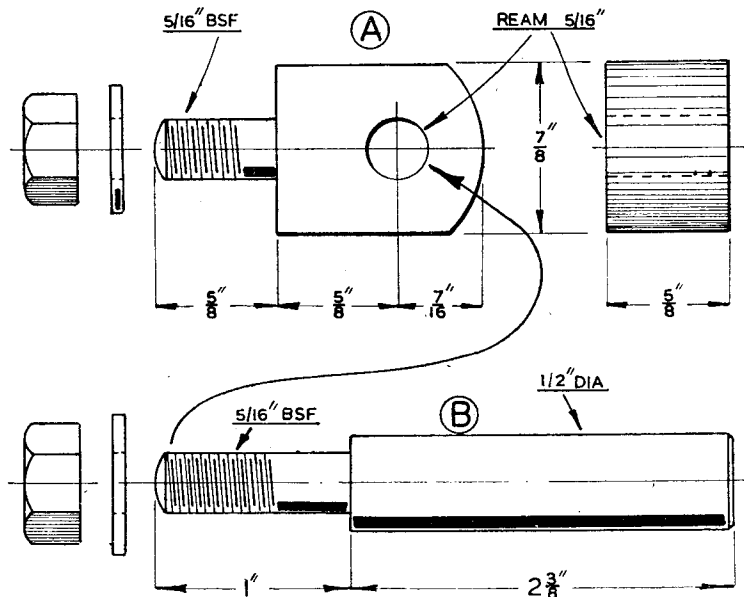

Fig. 8. Bracket for right-hand rest arm
The component which fits into the bracket and also carries the rest arm will be seen in Fig. 4, and the working drawings of its parts are given in Fig. 8. The banjo (A) is made from a piece of mild-steel, and before being cut to length it should be drilled and reamed to receive the reduced end of the bracket spindle (B). The reaming size drill for $\frac{7}{8}$ in. in common use is Letter "N" $\frac{33}{100}$ which, as it leaves $10\frac{1}{2}$ thousandths of an inch to